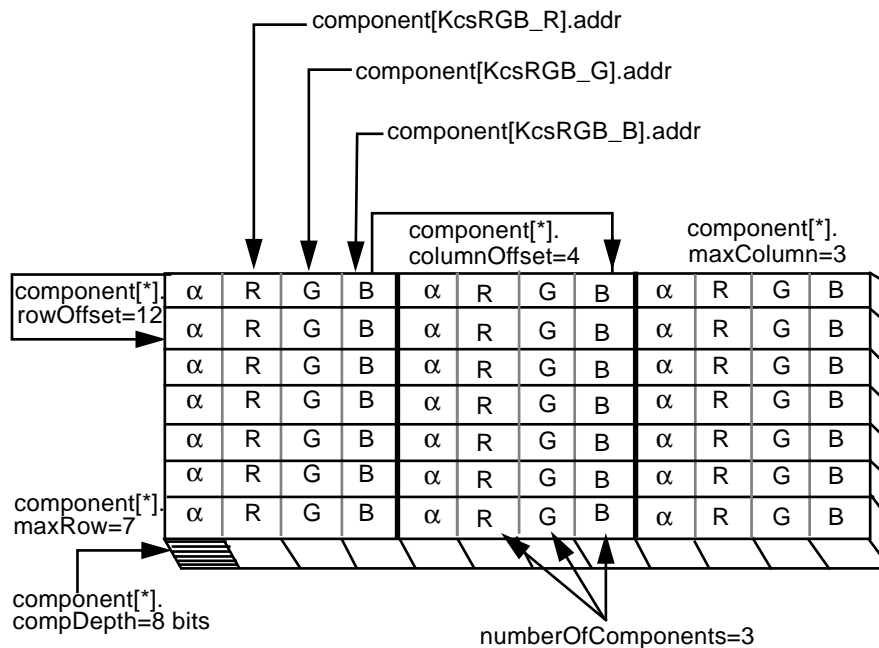

Figure 3-1 24-bit Color Component-Interleaved Data for RGB Pixel Image
- *Component-interleaved* data—color components of a pixel (for example, the red, green, and blue channels of an RGB image) are stored in consecutive memory addresses. (This is also called *pixel-interleaved* data.) See Figure 3-1 on page 55 for a detailed diagram of this pixel layout.
Your application can use a pixel layout structure to define any rectangular region of a larger image. Code Example 3-4 and Figure 3-1 on page 55 illustrate the component-interleaved, 3-by-7 pixel layout supported in the API.
Figure 3-1 illustrates the component-interleaved, 3-by-7 layout.